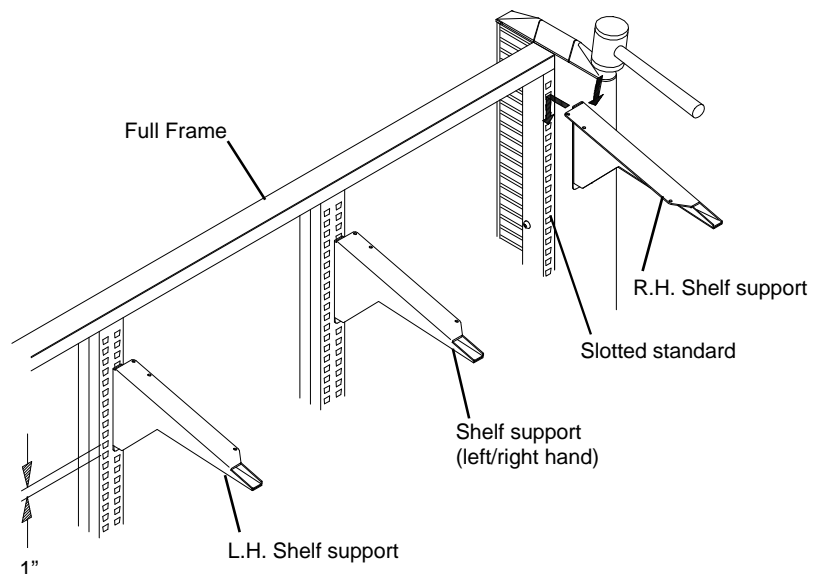

Figure 2
2. Determine the location of the shelf. Position the **Shelf Supports** as shown in **Figure 2**. Insert the hooks on the back of the supports into the slotted standard of the Full Frame and push down.